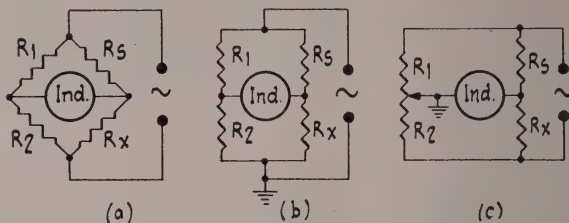

Fig. 1
The principle of the bridge is simply that of the Wheatstone Bridge, that can be regarded as the father of all bridge circuits. Strictly speaking the Wheatstone Bridge is operated with D.C., and is composed of only resistances. Its circuit is shown in Fig. 1 (a), in the form in which it is usually drawn. As far as the operating principle is concerned, it does not matter at all whether the bridge is fed with A.C. or D.C. All that must be done is to ensure that the indicator, or detector as it used to be called, can respond to the type of current that is used to feed it. The classical Wheatstone Bridge used D.C., and therefore had to have a sensitive galvanometer as the balance indicator. When A.C. is used, anything that will give an indication of the presence or absence of A.C. at the output terminals can be used as the indicator. Before the days of valves, a pair of sensitive headphones was always used, without any amplification. The bridge was then balanced by adjusting it until there was no sound in the 'phones. 'Phones can still be used, of course, and they can be made very sensitive indeed by employing a valve amplifier ahead of them. They are inconvenient to use, however, and other types of indicator are usually preferred. One good method is to retain the amplifier, rectify its output, and pass the rectified current through a sensitive meter movement. Balance is then indicated by minimum reading on the meter. The scheme used here is similar, but uses a magic eye tube instead of the meter. The rectified audio signal from the bridge is applied to the control grid of the magic eye tube. Thus when the bridge is out of balance the eye is closed but as the balance point is approached it opens and is completely open when no signal is coming from the bridge output, i.e., when it is balanced.
For our younger readers, it would be as well to enlarge somewhat on the bridge, and show how it works. To do this we have re-drawn the circuit in Fig. 1 (b). Here the method of drawing is such as to emphasize that the bridge is nothing more than a pair of parallel-connected voltage dividers. Across these voltage dividers is connected the oscillator, or the battery if the bridge is energized with D.C. The indicator, which could be shown as a pair of phones, is connected from one of the tapping points to the other. Now, if the ratio of  $R_1$  to  $R_2$  is equal to the ratio between  $R_5$  and  $R_x$ , there will be no voltage across the indicator terminals, and the bridge is said to be balanced. The reason for there being no voltage between the terminals of the indicator is simply that because each voltage divider divides the voltage of the battery or oscillator in the same ratio, the potential of
In Fig. 1 (c) we have re-drawn the bridge once more, this time with the earth point shifted to one of the indicator terminals. The circuit works in exactly the same way, whatever point is earthed, or even if there is no earth on the circuit at all. In addition,  $R_1$  and  $R_2$  have been shown as a single potentiometer, and we will see the reason for this in a moment. The Law of the bridge has been stated above, in words, but it is best written as a simple algebraic formula, thus:—
Now, if we know the values of  $R_5$ ,  $R_1$ , and  $R_2$  when the bridge is balanced, it is only a matter of arithmetic to work out what the value of  $R_x$  must be. This would be rather a slow and tedious way of measuring the resistance of anything, and an instrument would not be very useful if we had to stop and work out a sum every time we did a measurement, but this can be overcome by making  $R_1$  and  $R_2$  a potentiometer, as shown in Fig. 1 (c). Suppose we make  $R_5$  equal to 500 ohms, and that we have the potentiometer set exactly in the middle of its resistance. We then have  $R_1 = R_2$ , or  $R_2/R_1 = 1$ . If we now look at Equation (1) again, and put  $R_1$  equal to  $R_2$ , we have the result that  $R_x = R_5$ .  $R_x$  in our example must therefore be equal to 500 ohms, if the bridge is to balance with the settings as shown.